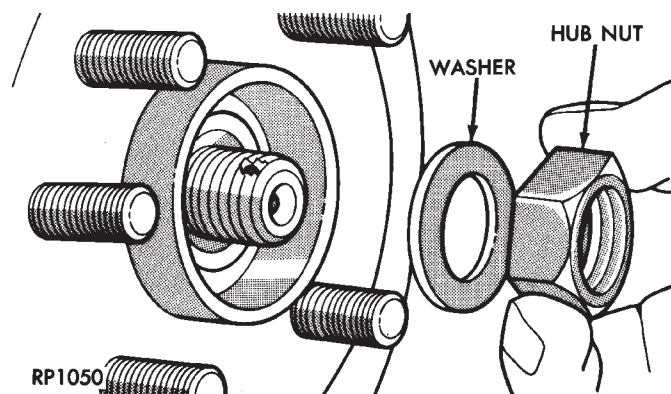

Fig. 18 Install Washer & Hub Nut
- (1) Install washer and hub nut after cleaning foreign matter from threads (Fig. 18).